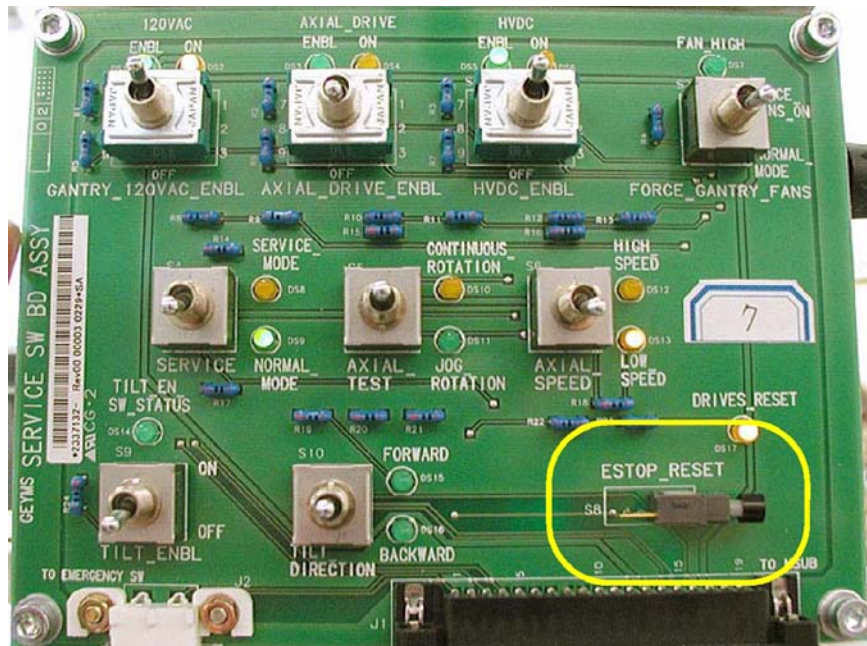

Figure 4-24 Service Switch Panel
- 5.) Push the Service Switch Panel reset button. (See Figure 4-24)